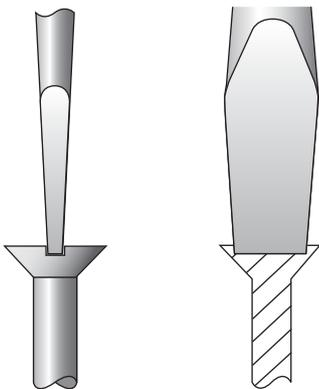

Figure 8.49 Correct fitting of a screwdriver
- 3 an overall length that suits the application (Figure 8.49).
- Always select a screwdriver to fit the screw slot snugly (Figure 8.49) and keep the tip of the blade ground square.